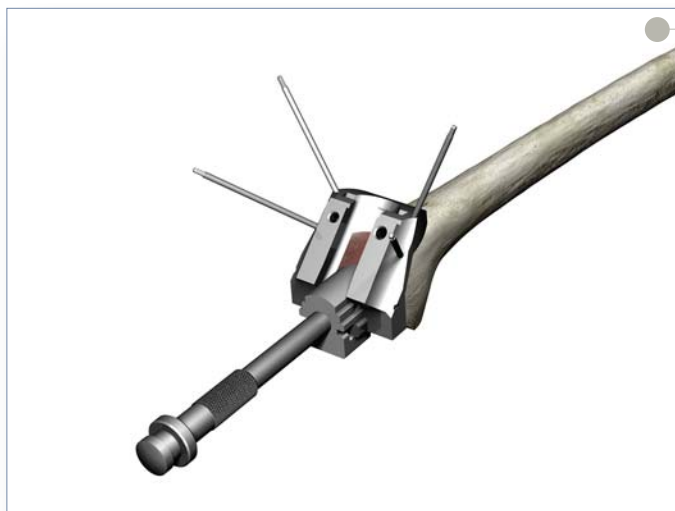

Figure 22
- ▶ Using a mallet, impact the Punch until it reaches the end-stop and is fully seated in the Notch Block (Figure 22).